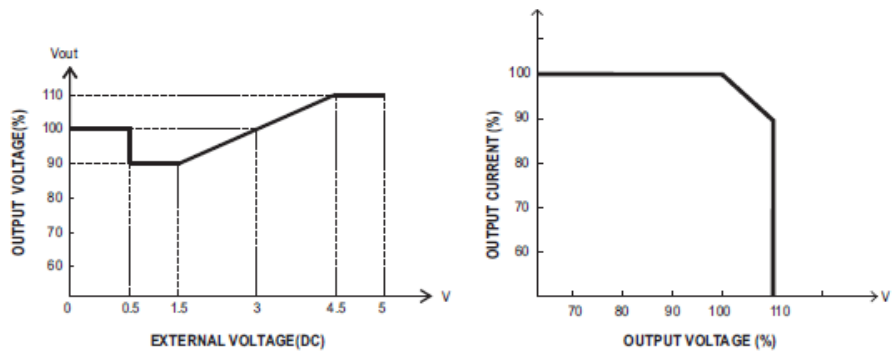

Fig. 3.2 Output voltage trimming
- (2) Adjustment of output voltage is possible between 90~110% (Typ.) of the rated output which is shown in Fig. 3.2. Reducing output current is required when the output voltage is trimmed up.